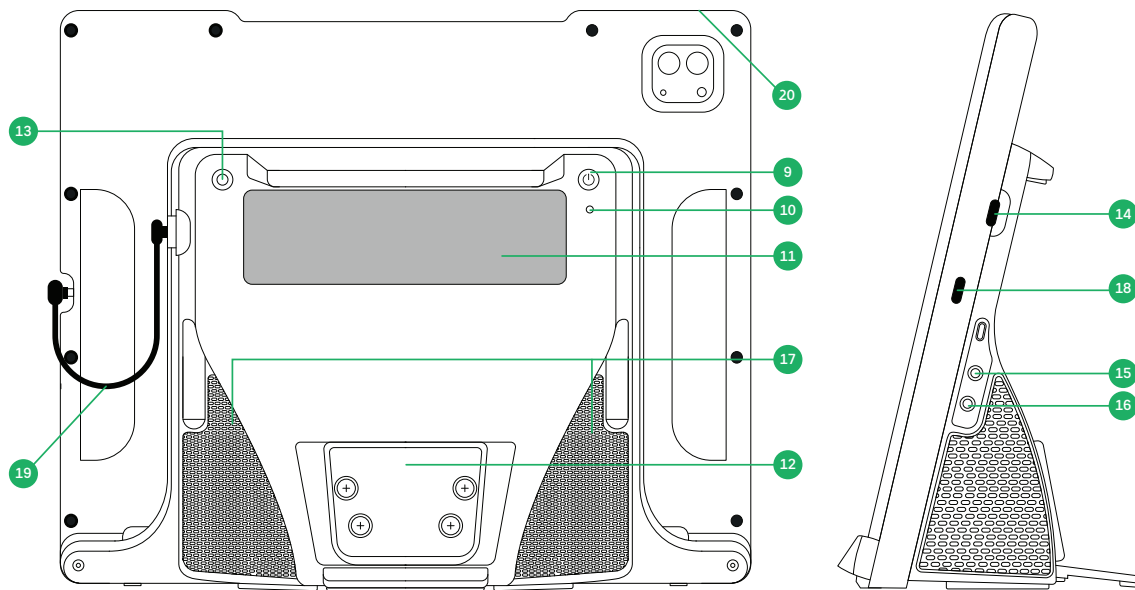

Figure 3.2 Back and Left Side
2. Press the power button near the the top of the TD Pilot Base device. (Position 9 in *Figure 3.2 Back and Left Side*)
To power off the TD Pilot Base, push and hold the power button (Position 9 in *Figure 3.2 Back and Left Side*) for 3 seconds. If, for some reason, the accessory crashes or is unresponsive hold the power button for 10 seconds will force a shutoff.